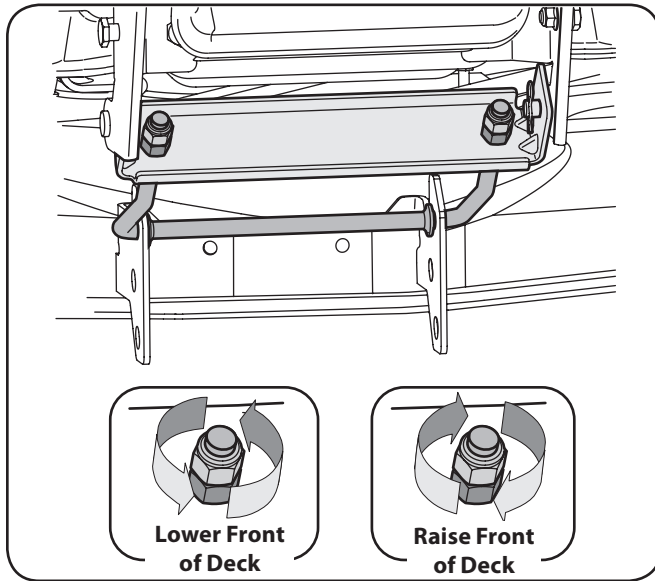

Figure 6-6
3. Working at the front of the tractor, loosen the two hex lock nuts at the front of the deck hanger rod. Thread the lock nuts away from the hex nuts behind them. Refer to Fig. 6-6.
4. Use an open end wrench to turn the inner hex nuts to adjust the front of the deck. Turn the hex nuts clockwise to raise the front of the deck, or counterclockwise to lower the front of the deck. Adjust the hex nuts evenly so that the deck hanger rod is at the front of both slots in the hanger bracket on the front of the deck. See Fig. 6-6.